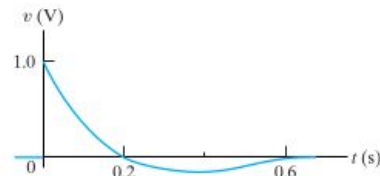

Figure 6.4 ▲ The voltage waveform for Example 6.1.
d) Figure 6.4 shows the voltage waveform.